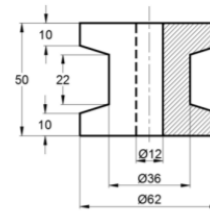

Fig. 6.2
2. Create a CSG model for a revolved component as shown in Fig. 6.2: Viewing in various modes (generate multi-view, print .pdf).